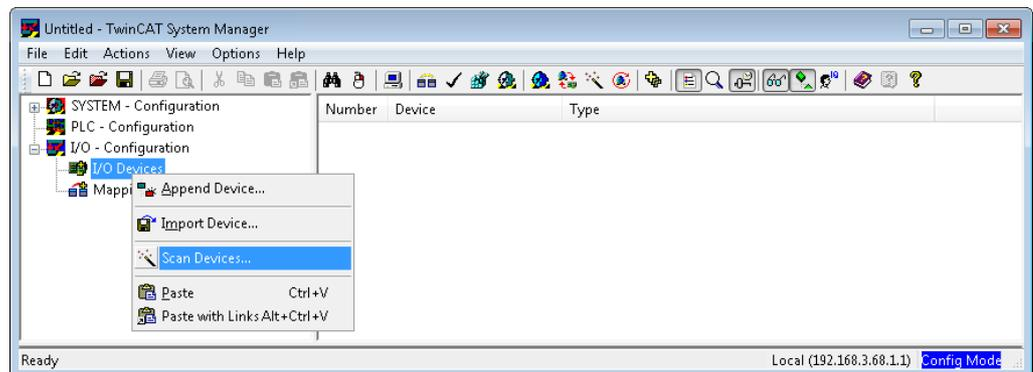

Fig. 6-20 Finding devices (bus coupler).
1. In the TwinCAT System Manager mark the **Group I/O device** and select **Find devices** from the context menu (Fig. 6-20).